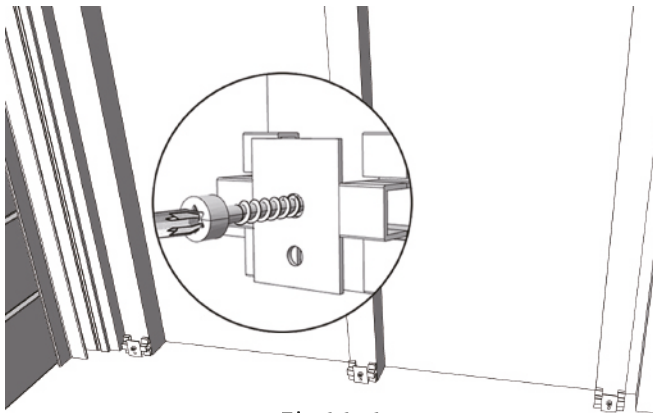

Fig11-1
1. Install the wall cladding accessories. As shown in Figure 11-1: